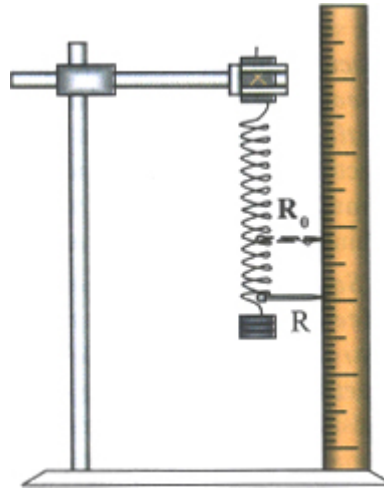

Figure 13.3 Loading a spiral spring
- Set up the apparatus as shown in Figure 13.3, measure and record the position of the pointer  $R_0$ .